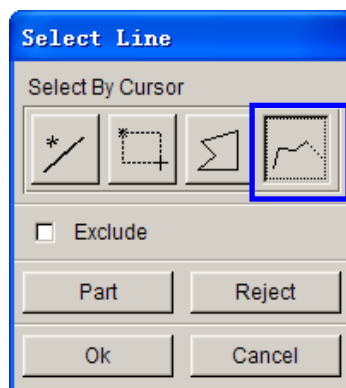

Figure 5.7 Select line
3. The SELECT LINE dialog box is shown as Figure 5.7.